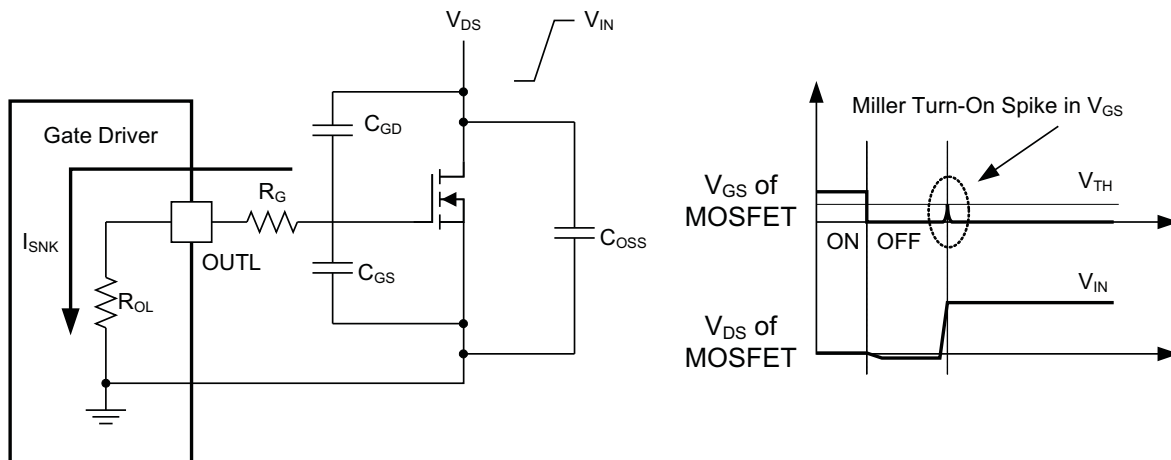

Figure 24. Very Low Pull-Down Impedance In UCC27511, 4-A/8-A Asymmetrical Drive (Output Stage Mitigates Miller Turnon Effect)
An example of a situation where Miller turnon is a concern is synchronous rectification (SR). In SR application, the  $dV/dt$  occurs on MOSFET drain when the MOSFET is already held in off state by the gate driver. The current discharging the  $C_{GD}$  Miller capacitance during this  $dV/dt$  is shunted by the pulldown stage of the driver. If the pulldown impedance is not low enough then a voltage spike can result in the  $V_{GS}$  of the MOSFET, which can result in spurious turnon. This phenomenon is illustrated in Figure 24. UCC27511 and UCC27512 offers a best-in-class, 0.375- $\Omega$  (typ) pulldown impedance boosting immunity against Miller turnon.